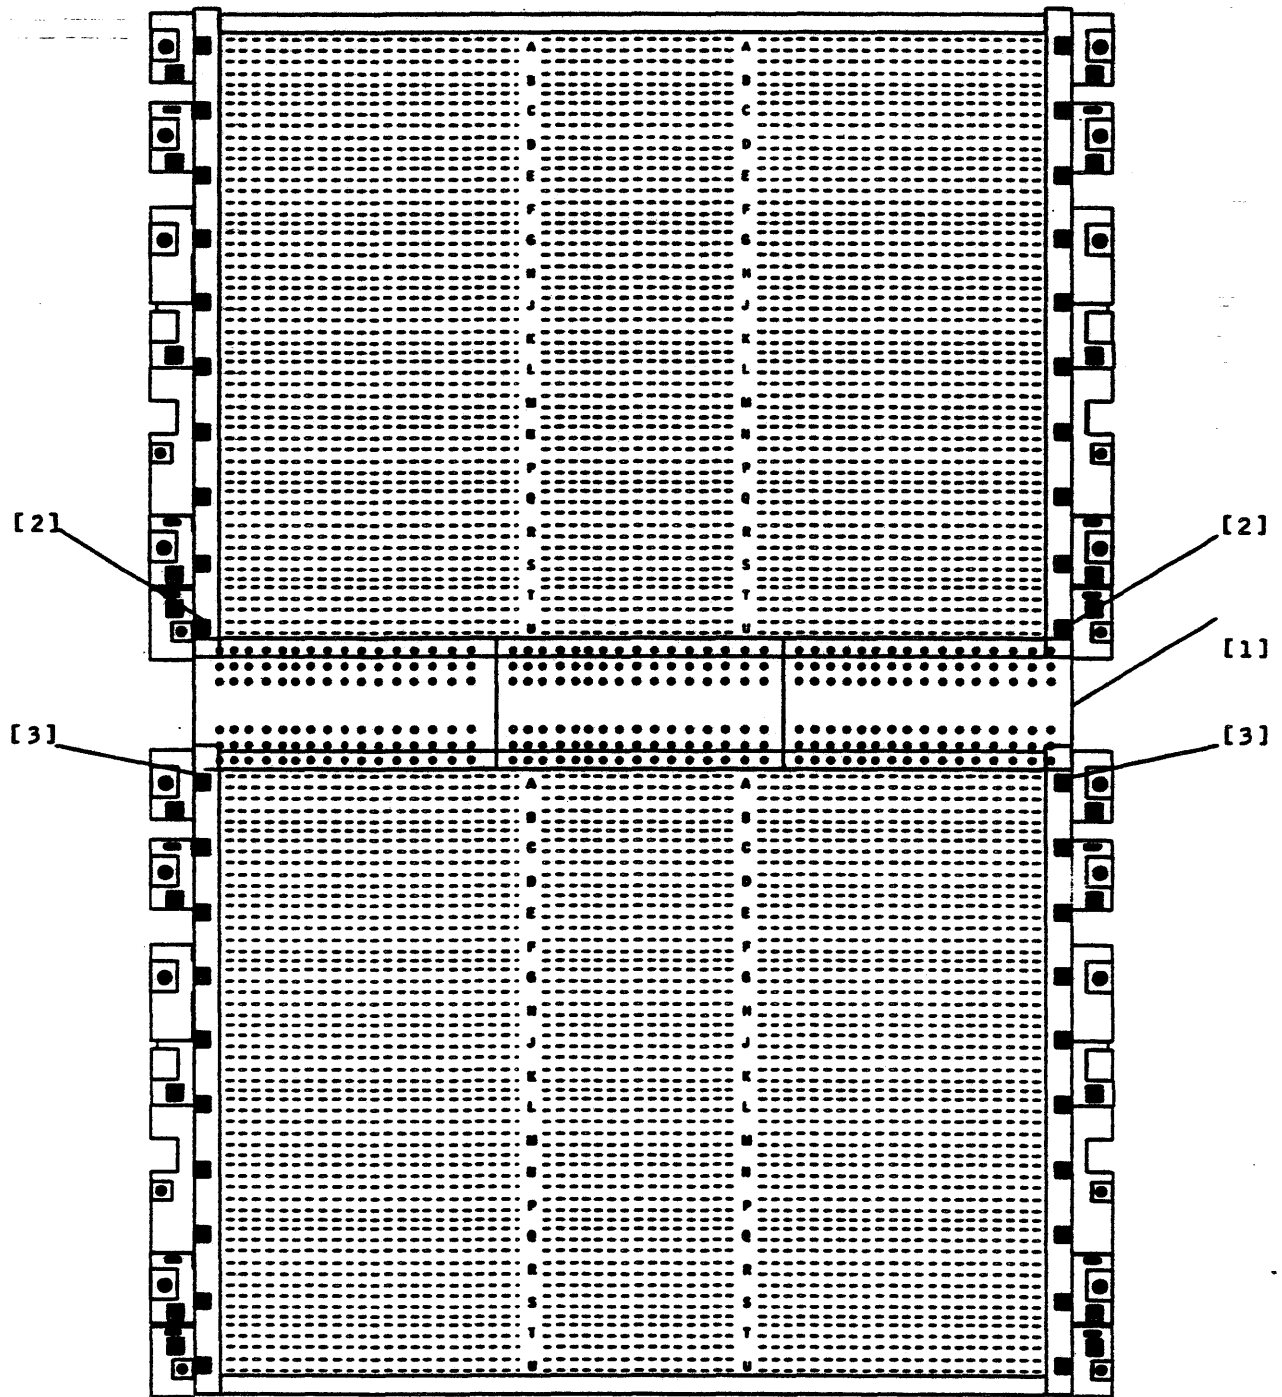

FIGURE 2.37-1. INTERBACKPANEL JUMPER CONNECTOR
- (1) Release the affected resources from the operating system (see Maintenance Procedure 4.1).
- (2) Using a hex-head wrench, release cabinet's door latch mechanisms and open doors of cabinet requiring maintenance (MMU, IOM, IMU or MSP/MTP).
- (3) Remove faulty cabinet's logic power by pressing the POWER OFF switch on the Operator Control Panel, then place the Power Control Module's REMOTE/LOCAL switch in the LOCAL position.
- (4) Locate the faulty interbackpanel jumper connector (see Figure 2.37-1, [1]).
- (5) Using a cross-tip screwdriver, remove the bottom securing screws (left and right sides) from the card module directly above the faulty jumper connector (see Figure 2.37-1, [2]).
- (6) Using a cross-tip screwdriver, remove the top securing screws (left and right sides) from the card module directly below the faulty jumper connector (see Figure 2.37-1, [3]).
- (7) Remove top and bottom set of removal fingers from the insertion/removal tool.